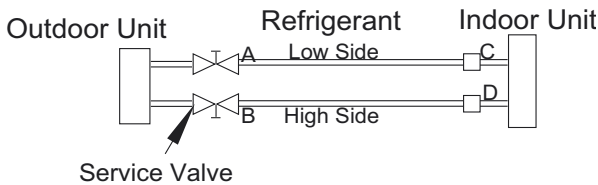

Fig. 16 – Service Valve
- 1 Completely tighten flare nuts A, B, C, D, connect manifold gage charge hose to a charge port of the low side service valve (see Fig. 16).